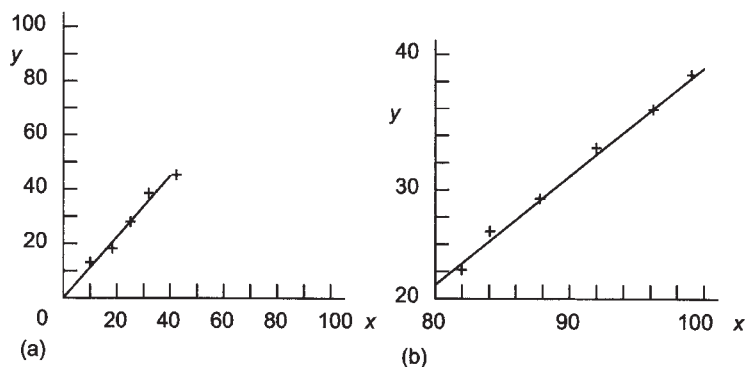

Figure 1.2 (a) *Badly chosen scales*, (b) *sensible scales*
- 1 The scale should be chosen so that the points to be plotted occupy the full range of the axes used for the graph. There is no point in having a graph with scales from 0 to 100 if all the data points have values between 0 and 50 (Figure 1.2(a)).
- 2 The scales should not start at zero if starting at zero produces an accumulation of points within a small area of the graph. Thus if all the points have values between 80 and 100, then a scale from 0 to 100 means all the points are concentrated in just the end zone of the scale. It is better, in this situation, to have a scale running from 80 to 100 (Figure 1.2(b)).